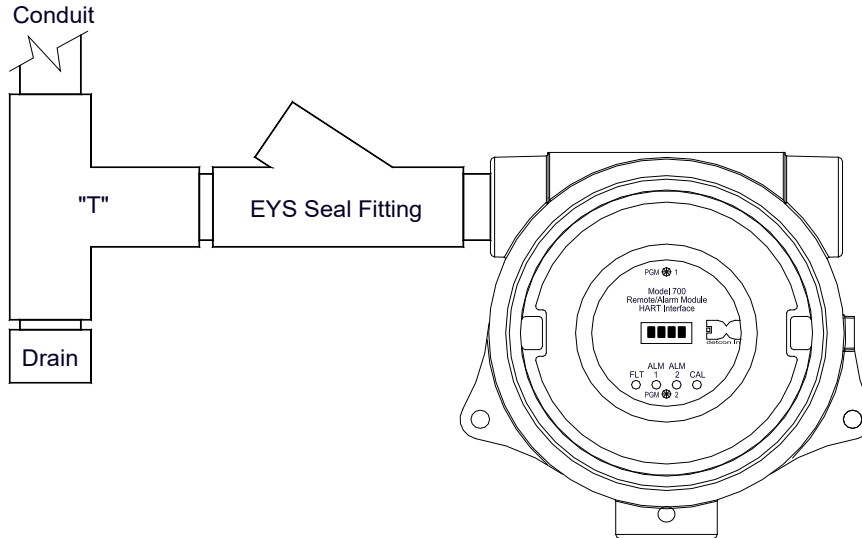

Figure 5 Typical Installation
**NOTE:** For products utilizing the aluminum junction box option, the conduit seal shall be placed at the entry to the junction box (see Figure 5 as an example). For products utilizing the stainless steel junction box option, the conduit seal shall be placed within 18” of the enclosure. Crouse Hinds type EYS2, EYD2 or equivalent are suitable for this purpose.